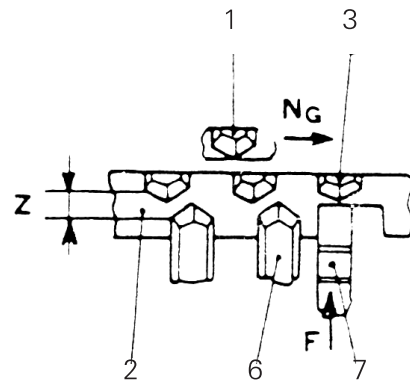
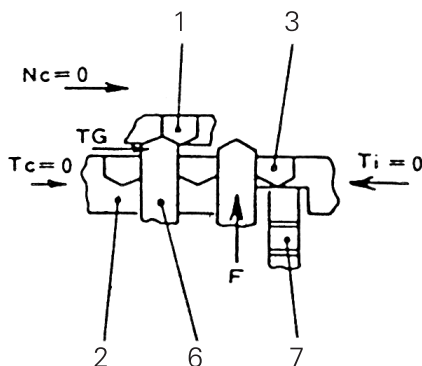
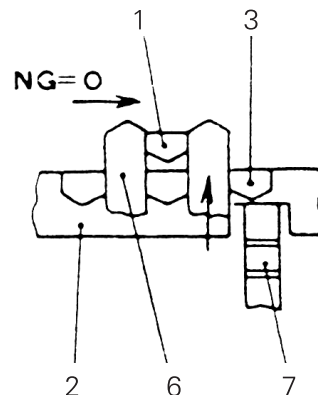

Fig. 3-6
Fig. 3-9
Fig. 3-10
3rd Step (See Fig.3-6)
Fig.3-6 to Fig. 3-10 are all vertical views.
6th Step (See Fig.3-9 and Fig. 3-10)
While passing through the block ring, the mesh sleeve shifts by a distance of Y , shown in Fig.7 and the chamfers of the mesh sleeve spline (6) come into contact with the chamfer of the spline (6) (See Fig.3-9). Due to the contact of chamfers, the torque T_c turns the gear (11) over an angle relative to the mesh sleeve and meshes the mesh sleeve spline with the spline (6).